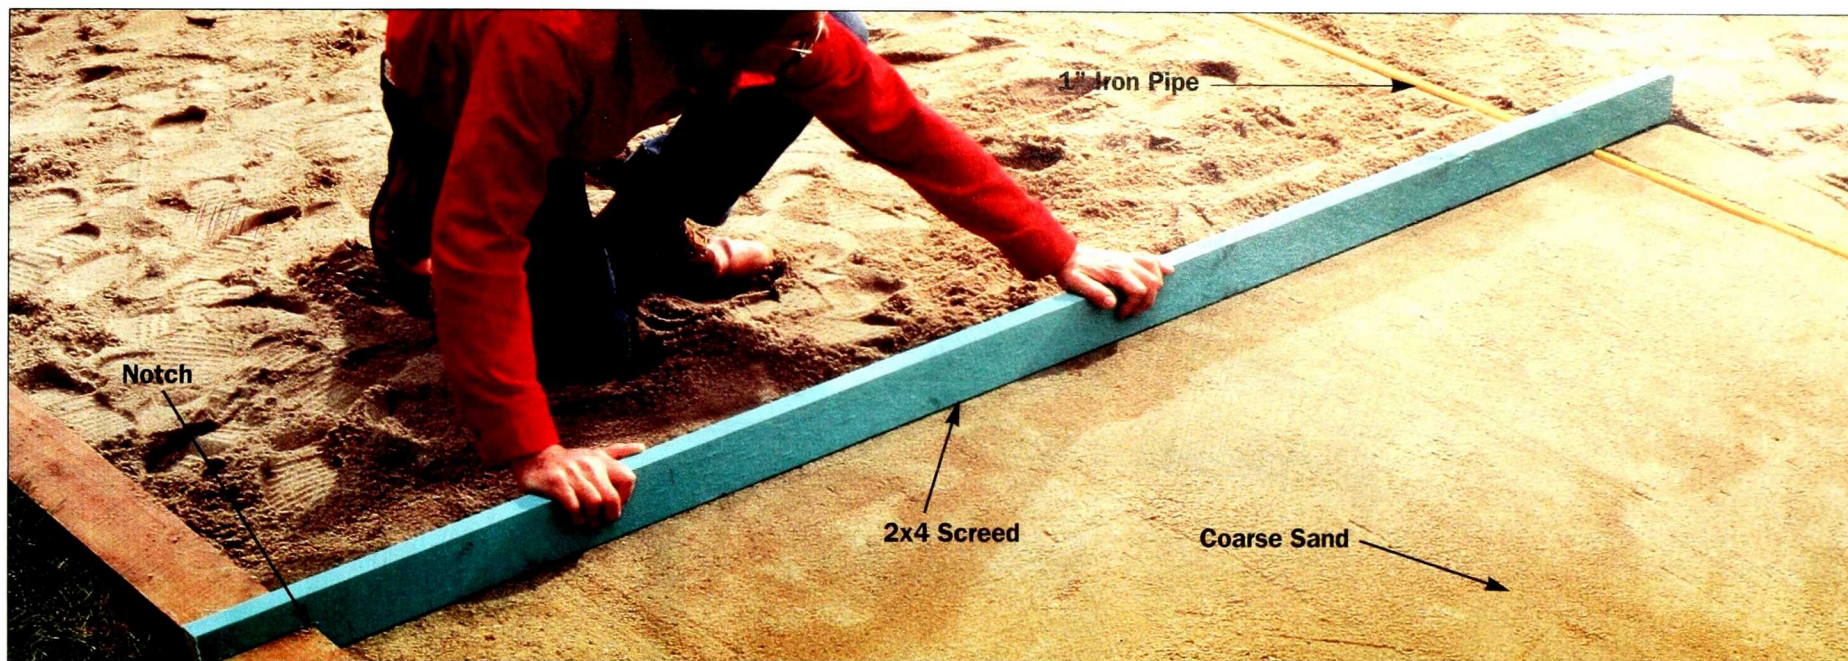

Figure 8: Spread and level a 1-inch bed of sand over the compacted subbase. Pipes provide a guide for the 2x4 screed.
- In many cases you'll use a combination — a notched screed board riding along the edging on one end, with the other end of the screed running along iron pipe (Figure 8).